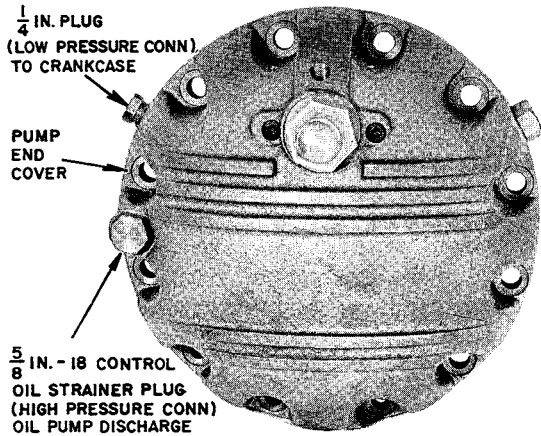

Fig. 3 — 5H Connections
5H Compressors, Except 5H120 (see Table 1 and Fig. 3) — Remove 1/4-in. plug on perimeter of pump end cover and replace with flare coupling (item 4). Connect capillary from low-pressure side of oil safety switch to coupling.